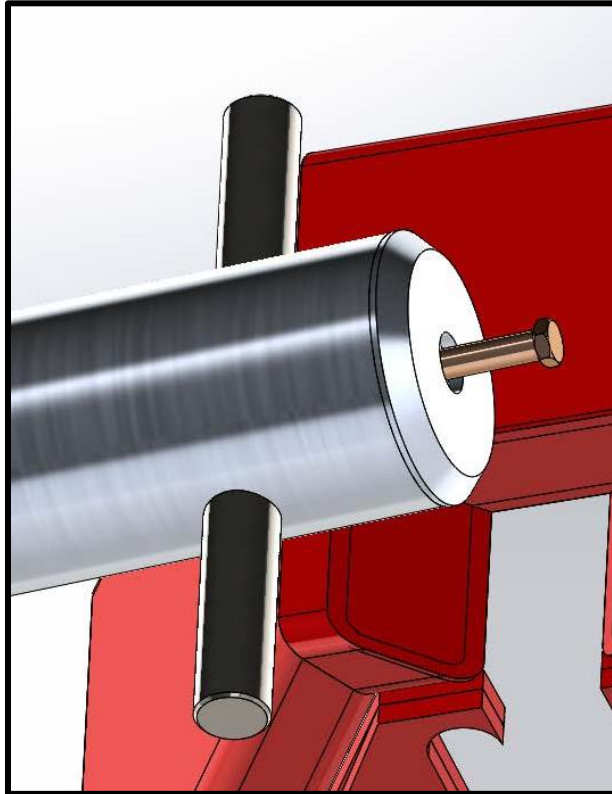

Figure 13 Arm Aluminum End Cap
7. Install aluminum end cap on aluminum tube using ½" x 20 x 4" bolt supplied and torque down to 27ft lbs. See figure 13.